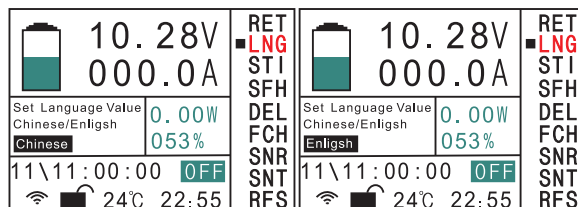

Figure 4-11
11). "**LNG**" Language switching function, the instrument parameters preset with Chinese and English two interfaces to choose from, enter the parameter settings page as shown in Figure 4-11, click the $\uparrow\downarrow$ key to switch the language type.